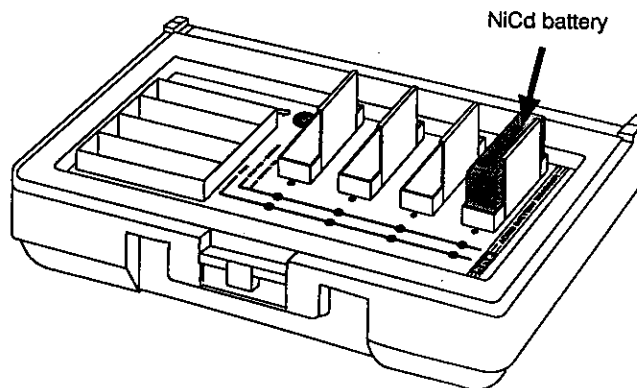

Figure 8.
3. Battery Charger (See Figure 8 on page 5.)
Place up to four batteries in the charger to charge at the same time, as shown in Figure 8. As each battery is placed in the charger, the red CHARGING light on the panel adjacent to the battery will light, indicating it is charging. If the red light flashes when the battery is installed, the battery may be defective. If this happens, remove the battery and re-insert it in another compartment. If the red light flashes again, the battery is defective and needs to be replaced. When a battery is fully charged, the green READY light on the panel adjacent to it will light. **(approximately 4 hours)** It can then be placed back into a Communicator.